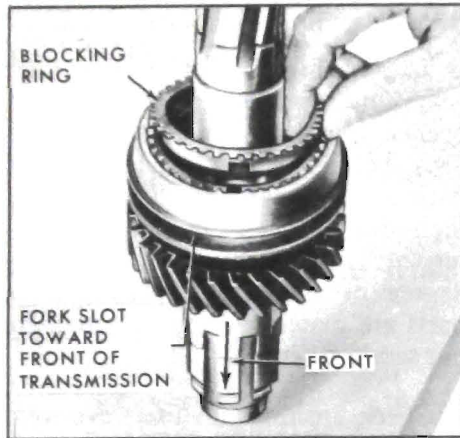

Figure 72-411 - Installing Blocking Ring
2. Install first-second speed synchronizer assembly onto mainshaft (sliding sleeve taper toward the rear, fork slot toward front), together with a blocking ring on either side so their keyways line up with the clutch keys. See Figure 72-411.